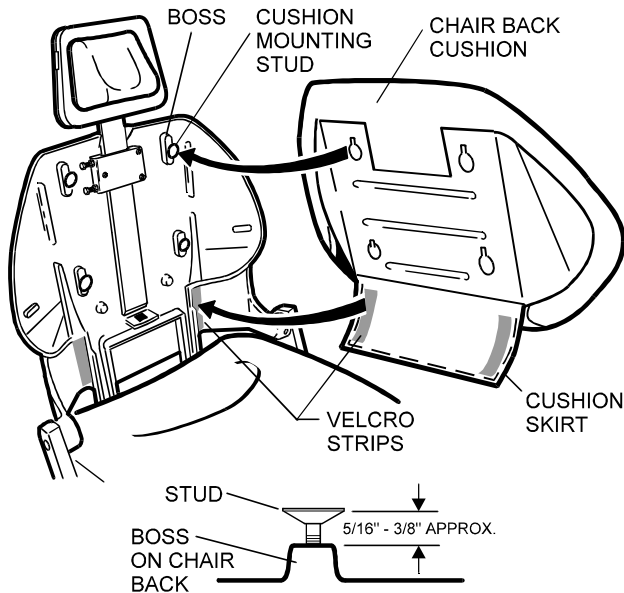

Figure 11
The seat back is mounted over the four large head studs in the chair back (see Figure 11). Use the following instructions after first raising the back to a convenient height for installing the cushion.
1. Before installing the chair back cushion, turn the four cushion mounting studs counter clockwise until they are approximately 5/16 to 3/8 inches from the top of the boss (See Figure 11).
2. Position the chair back cushion on the chair back and align the four cushion mounting studs with the holes in the chair back cushion (See Figure 11).